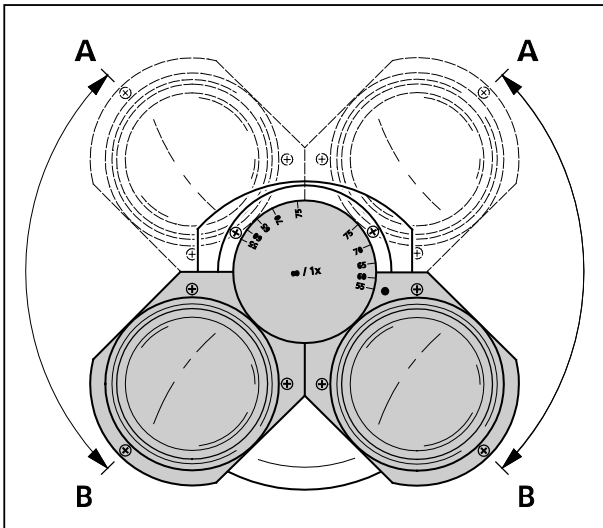

Fig. 15 Setting the viewing height on the binocular tube
- The viewing height can be adjusted to individual requirements by swiveling the eyepiece tubes up (Fig. 15/A) or down (Fig. 15/B).